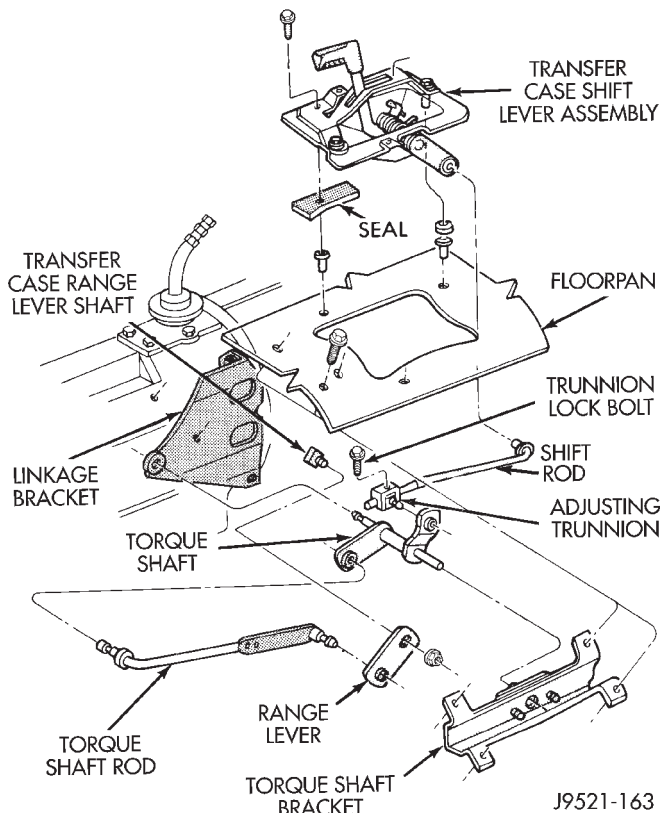

Fig. 3 Shift Linkage (XJ)
- (1) Shift transfer case into 4L position.
- (2) Raise vehicle.
- (3) Loosen lock bolt on adjusting trunnion (Fig. 3).
- (4) Verify that linkage rod slides freely in trunnion. Clean rod and apply spray lube if necessary.
- (5) Verify that transfer case range lever is fully engaged in 4L position.
- (6) Tighten adjusting trunnion lock bolt.
- (7) Lower vehicle.
- (8) Verify proper shift operation.